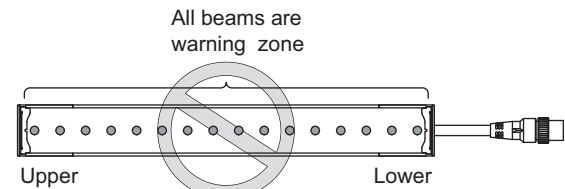

Figure 4
- All beams are configured as a warning zone (figure 4).